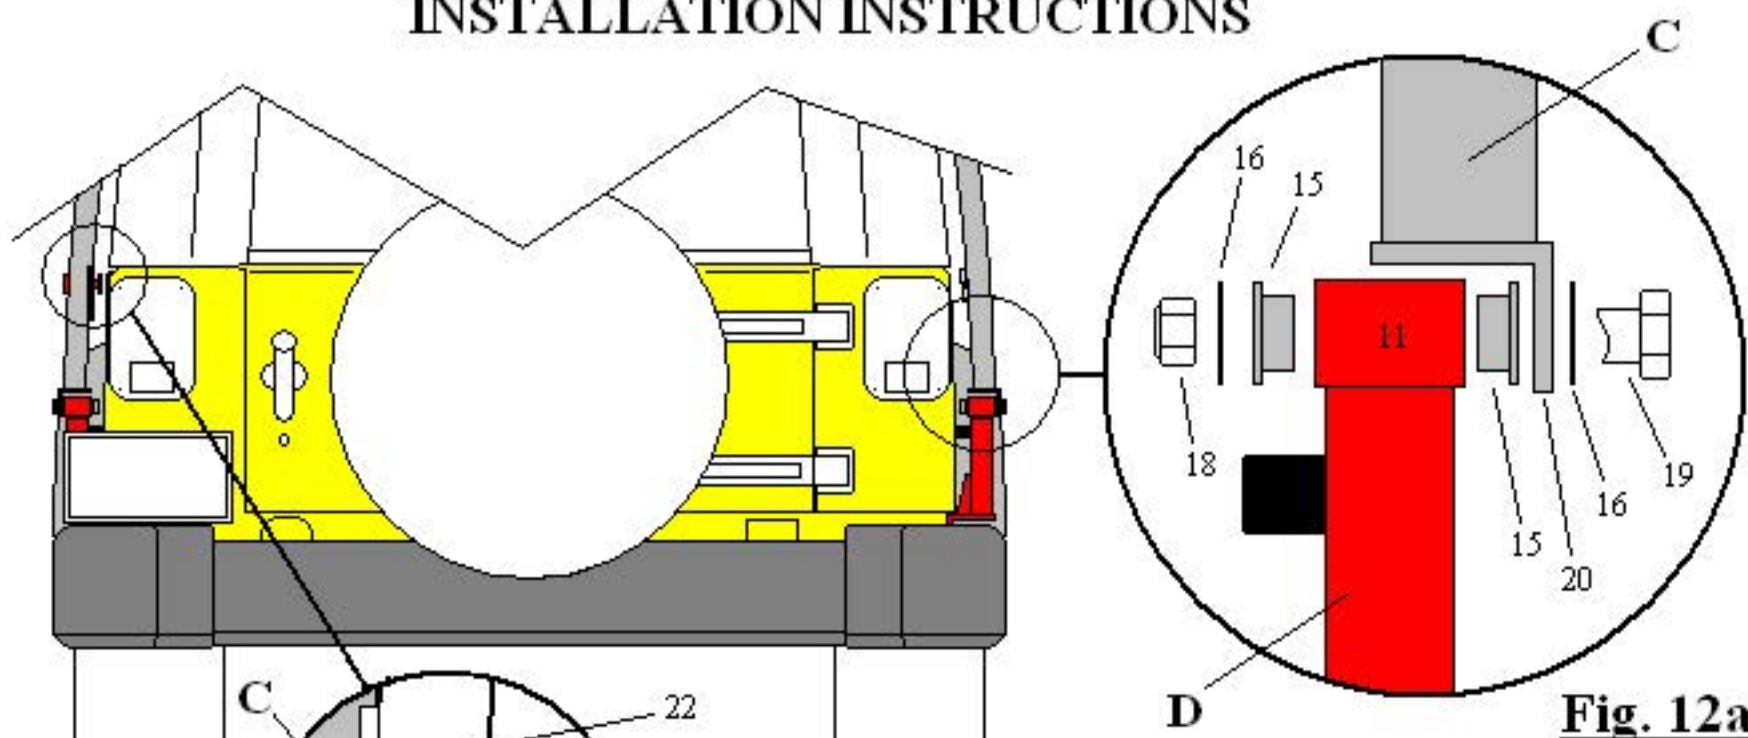

Fig. 12a
- 14- Refer to page 8 Fig. 12a if available apply a small amount of grease over the inside flange of the plastic shoulder washers (15) to hold in place then place one shoulder washer (15) to each side of collar (11) of Support Tower (D) as shown in Fig. 12a. Apply the same procedure to both support towers (D) at this time. Using two persons attach the Rear Roof Rack Support Bar (C) in the direction as shown in Fig. 13 page 8 to the support towers (D). While the rear roof rack support bar is horizontal as shown in Fig. 13 thread in place one side at a time 1/2" bolt (19) through 1/2" grade 8 hard washer (16) and finally thread into Nylock nut (18) finger tighten only at this time. Apply the same procedure to the opposite side of support bar (C) and snug down both bolts (19) at this time. Pivot the roof rack support bar (C) up and lay over the vehicle roof top. If a hard top is present place a rag or towel between the support bar (C) and roof top to prevent marring of the paint.